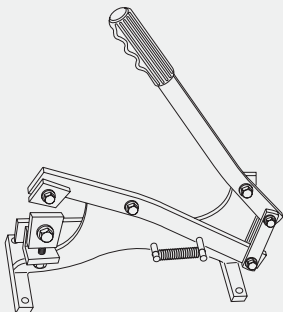

Fig. 4 – A typical tile cropper
- 1 Traditionally, tiles for hips and flashings are cut using a hammer or pincers (Fig. 3) and tile cropper (Fig. 4).